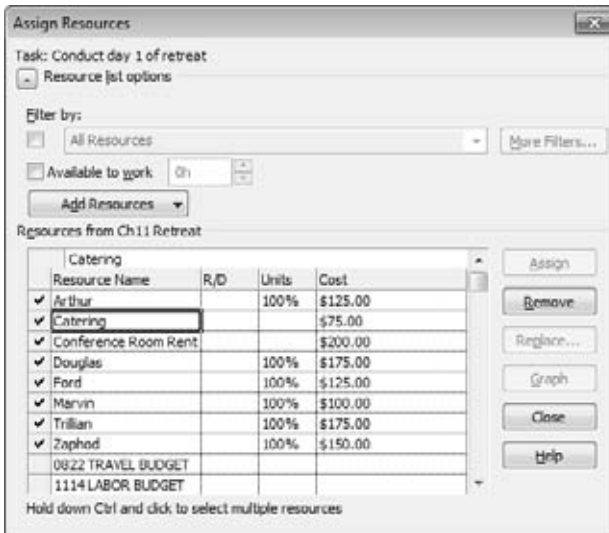

Figure 11-3:
6. If the same task uses a second cost resource, select its name, as shown in Figure 11-3, and then click Assign.